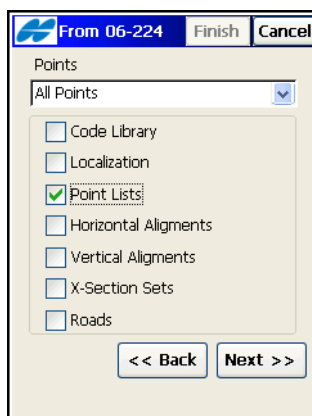

Figure 5-2. Import from Job
2. In the **From <Job>** screen (Figure 5-2) select whether points are to be imported, and if necessary, filter the imported points either by type, by range and code, or by type, range, and code. Place appropriate check marks if the following parameters should be imported along with points: *Code Library*, *Localization*, *Point Lists*, *Horizontal Alignments*, *Vertical Alignments*, *X-Section Sets*, or *Roads*. Tap the **Next** button..
3. If *By Type* or *By Type, Range and Code* is selected in the *Points* drop-down menu of the **From <Job>** screen (Figure 5-2 on page 5-2), select the types of points to be imported on the **Select Point Type(s) to Import** screen.
5. If *By Range and Code* is selected in the *Points* drop-down list of the **From <Job>** screen (Figure 5-2 on page 5-2), on the **Points to Import** screen, select the codes and/or the range of points to be imported (Figure 5-4 on page 5-4).